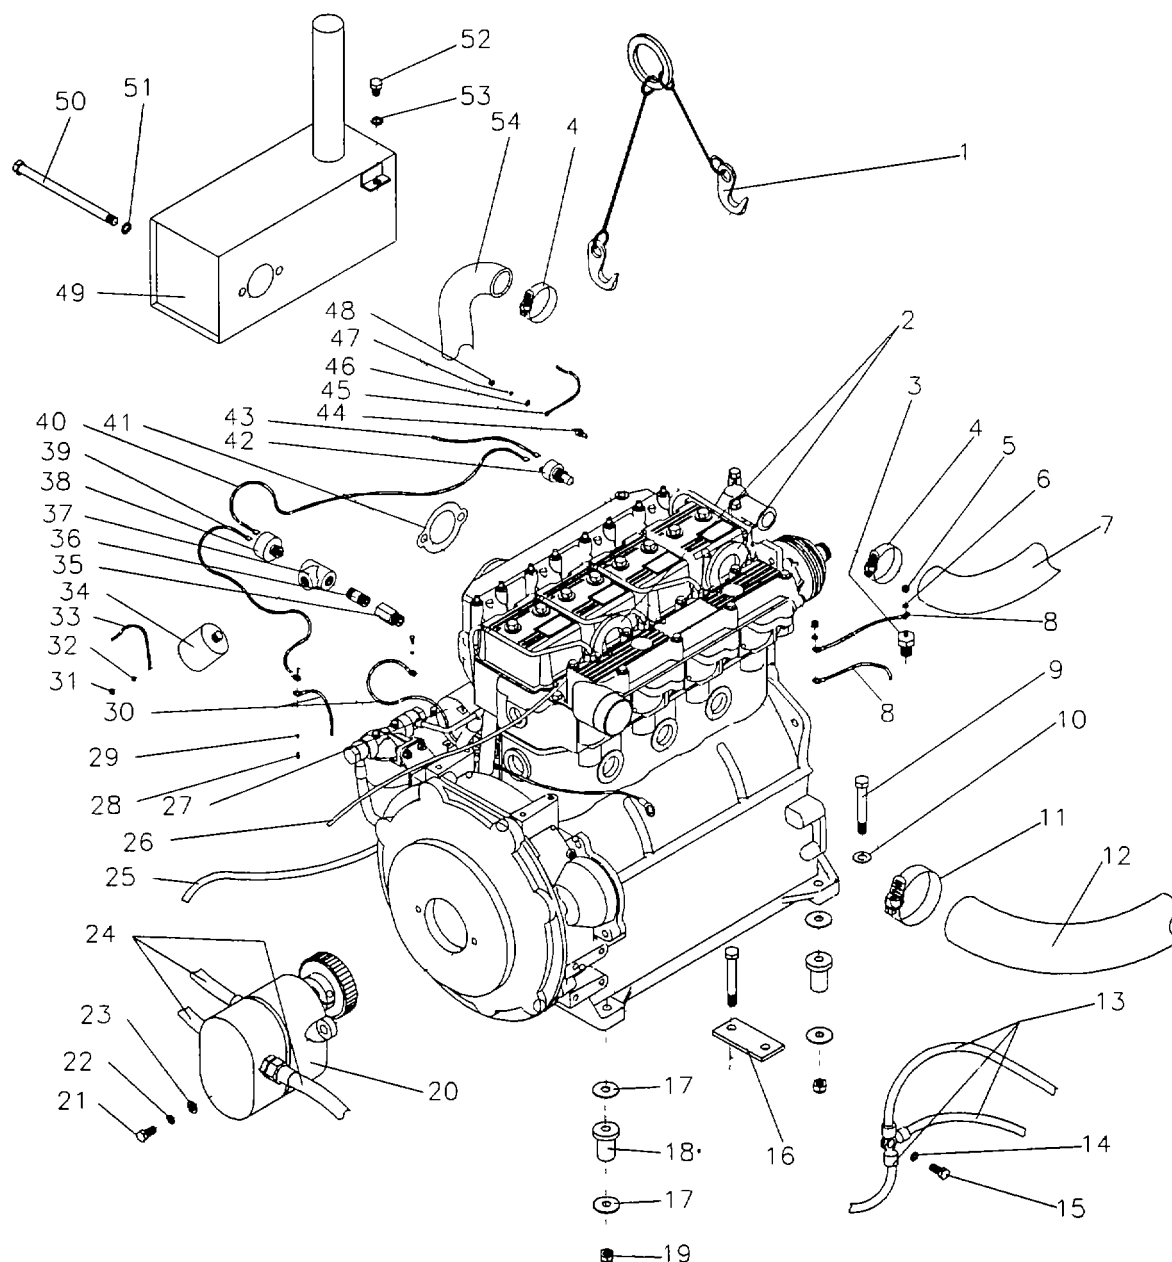

Figure 6-3. Engine Block Assembly.
a. Removal Refer to figure 6-3.
b. Installation. Refer to figure 6-3.
- 1) Connect slinging hooks (1) to the two slinging points (2) on engine and using a hoist lift engine on to base.
- 2) Install the shockmounts (18), steel straps (16), special washers (17), washers (10), bolts (9) and nuts (19).
- 3) Install gasket (41), muffler (49), lockwashers (51), screws (50), lockwasher (53) and screw (52).
- 4) Install upper (7) and lower (54) radiator hoses Tighten clamps (4)
- 5) Install glow plugs (3) wires (8), lockwashers (6) and nuts (5).
- 6) Install pump (20) flatwashers (23), lockwashers (22) and screws (21).
- 7) Install fuel inlet (25) and fuel leakoff hoses (26)
- 8) Install wires (30, 39), lockwashers (29), and screws (28) to fuel solenoid (27).
- 9) Install bushing (35), nipple (36), tee (37), oil pressure switch (38) and wires (39, 40)
- 10) Install oil pressure sending unit (34), wire (33), lockwasher (32) and nut (31).
- 1) Disconnect and plug or cap off the fuel inlet line (25, fig 6-3) at the engine
- 2) Using a pair of pliers, squeeze and rotate fuel line clamp (2) at pump end. Remove the fuel line (1) from the fuel injector pump (5)
- 3) Turn the governor run/stop control lever (4) counter clockwise to the stop position.